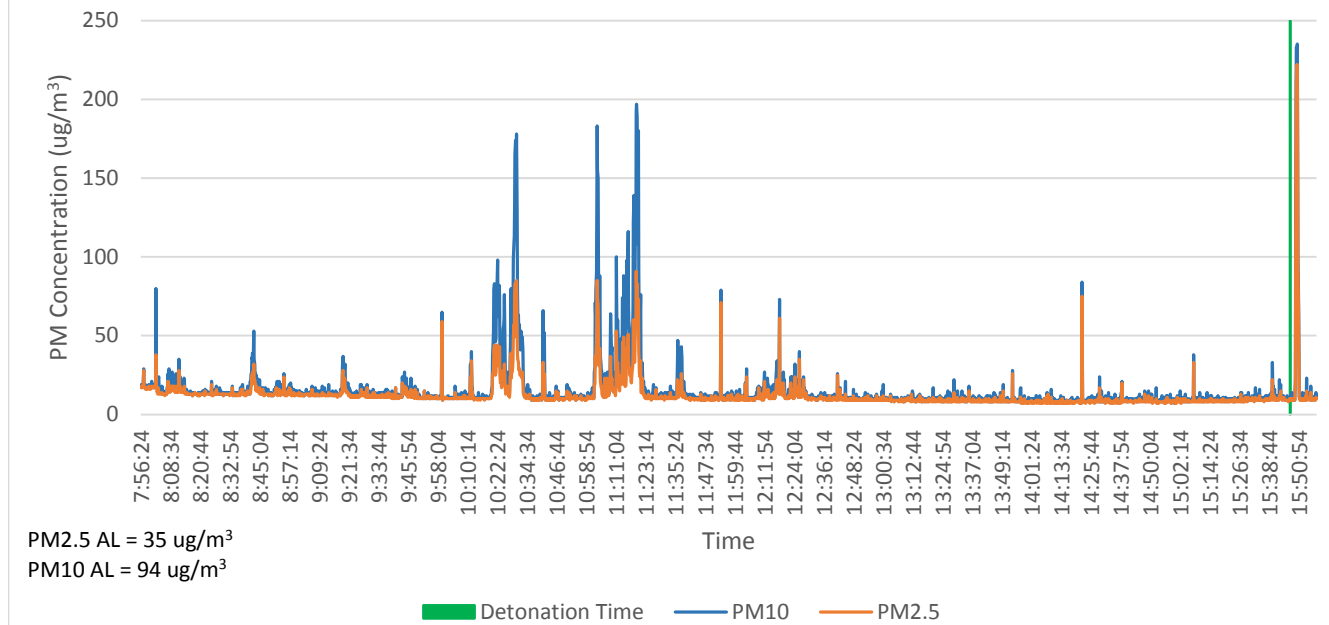

Figure 3-14. PM2.5 and PM10 on 8/14/17 at the Fence Line Boundary
- Figure 3-14. PM2.5 and PM10 on 8/14/17 at the Fence Line Boundary Monitoring Point - Waterford